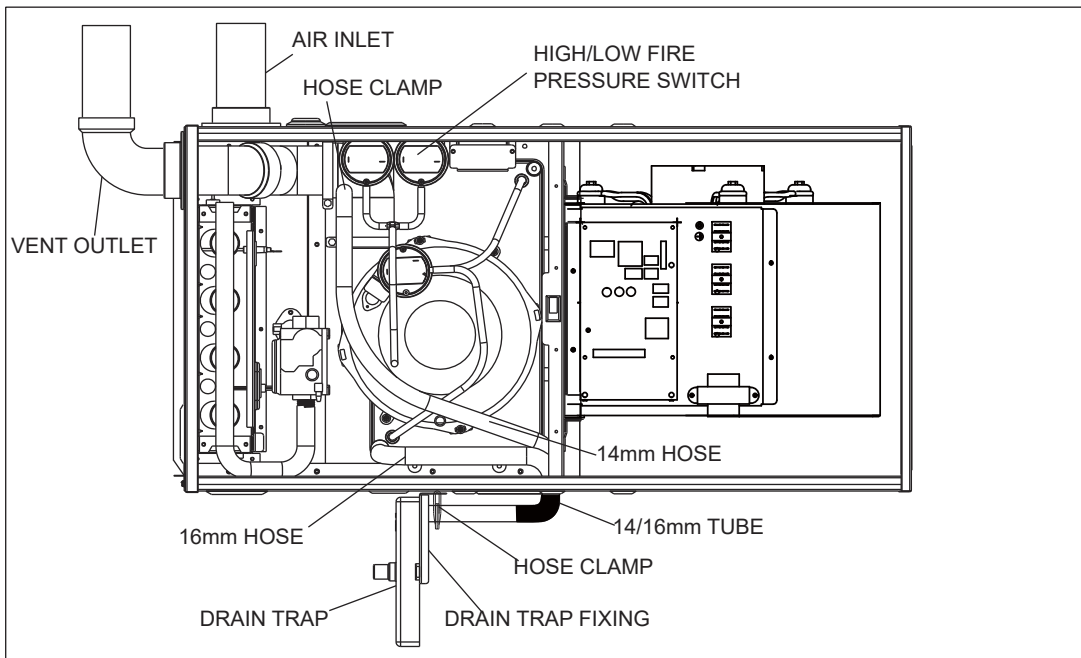
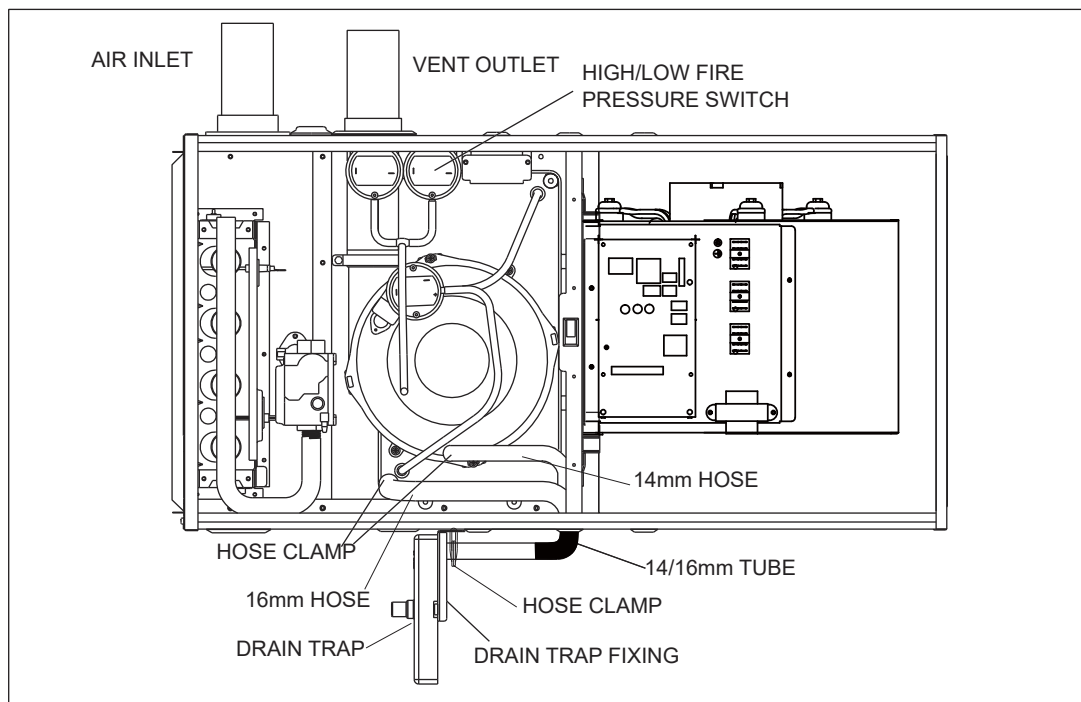
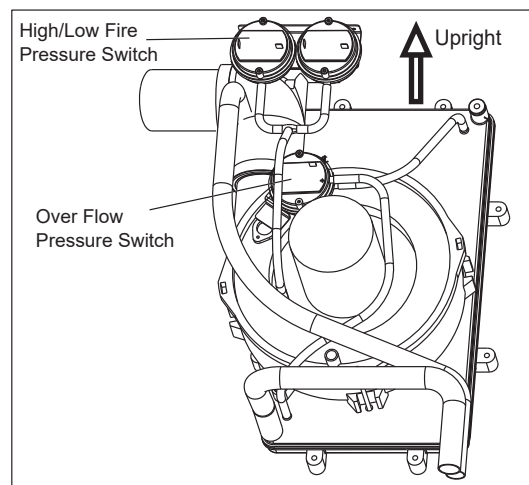

Fig. 14 - Horizontal Left Side Installation, Vent Through Top Panel
Fig. 15 - Horizontal Left Side Installation, Vent Through Side Panel
Fig. 16 - Pressure Switch Position
**CAUTION: FOR HORIZONTAL LEFT INSTALLATION (AIR DISCHARGE TO THE LEFT), HOSES OF CONDENSATE OVERFLOW PRESSURE SWITCH NEED TO BE REROUTE. (SEE FIGURE 14&15)**
#### 2. Air discharge to the left and vent through furnace top panel (see Fig. 14 and Fig. 16)
#### 3. Air discharge to the left and vent through furnace side panel (see Fig. 15 and Fig. 16)
In this installation, hoses connecting between ports of overflow protection pressure switch (overflow switch) and pressure tabs on the collector box **MUST be switched**. The overflow switch has two ports, which is different from two other regular pressure switches that have only one port. Make sure that black port (positive) is connected to the lower position tap on condensate collector box and gray port (negative) to higher tap of condensate box. Connecting incorrectly will result in failure to protect condensate overflow. (See Fig. 16)